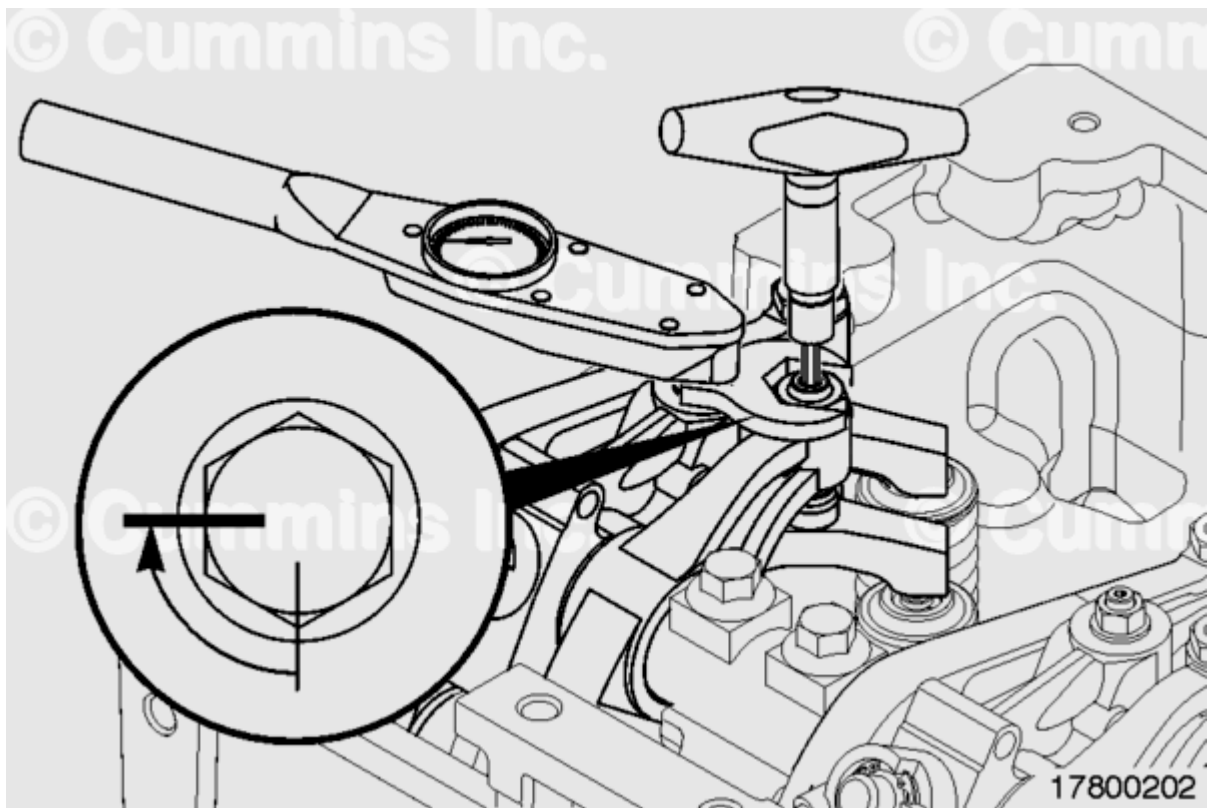

Figure 2
- Slowly increasing torque is applied to the fastener in the tightening direction until the nut rotates noticeably or the capscrew head rotates noticeably (Figure 2).
- The torque at the onset of motion is the breakaway torque value (Figure 2).